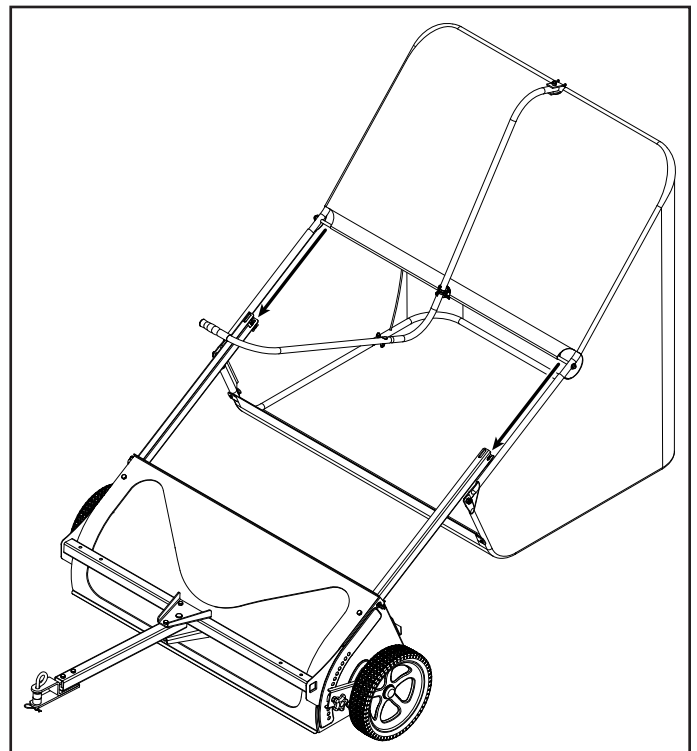

FIGURE 17
28. Slide the pivot rod into each of the pivot rod retainers on the ends of the bag arm channels. See figure 17.